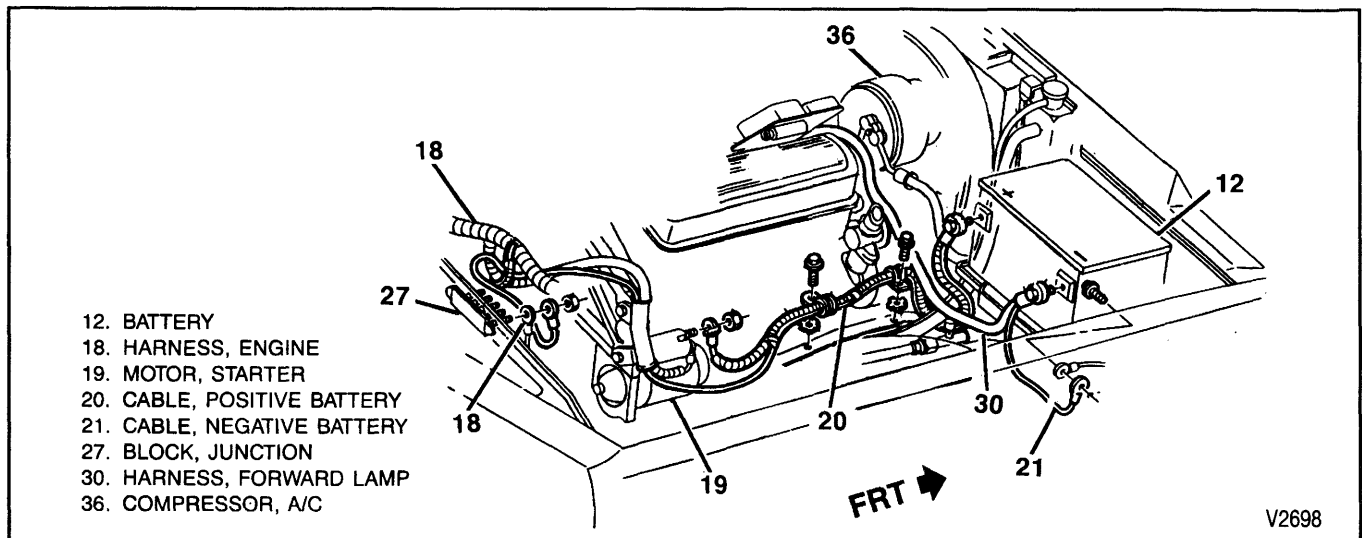

Figure 13—Battery Cable Routing (Gas Engines)
6. If the voltage drop in any of the above is more than 0.5 volt, there is excessive resistance in the circuit. To eliminate resistance, the cables should be disconnected and connections cleaned. If cables are frayed or the clamps corroded, the cables should be replaced. When selecting new cables, be sure they are the same length and diameter as the ones being replaced. Battery cable routing is shown in figures 13 through 16.